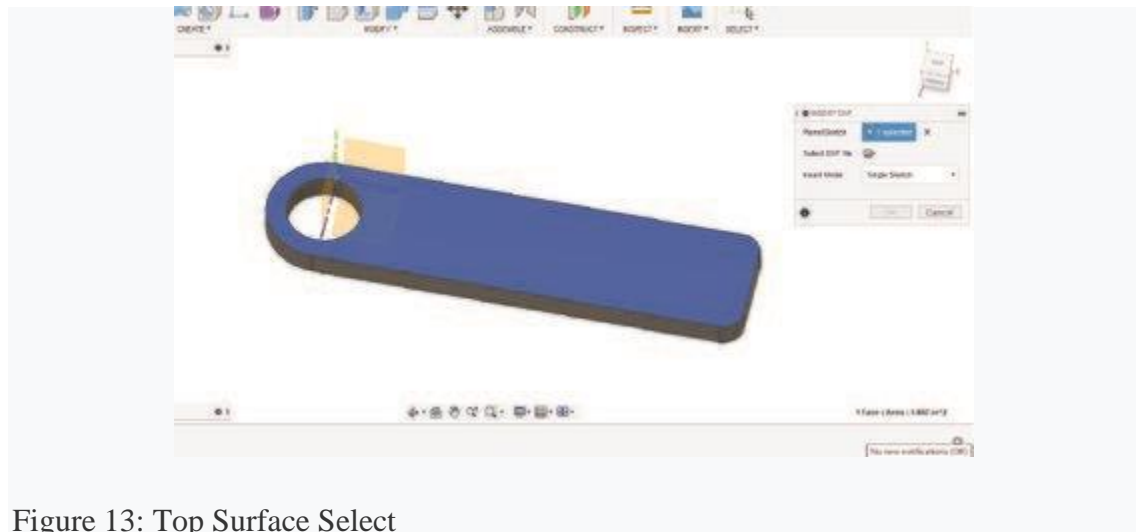

Figure 13: Top Surface Select
- c. Select the top surface of the key chain (Figure 13).